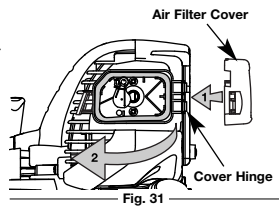

Fig. 31
7. Reinstall the air filter cover. Position the hooks on the right side of the air filter cover into the slots at the right side of the back plate (Fig. 31, no. 1).
8. Swing the cover to the left until the tab on the air filter cover snaps into place in the slot on the back plate (Fig. 31, no. 2).